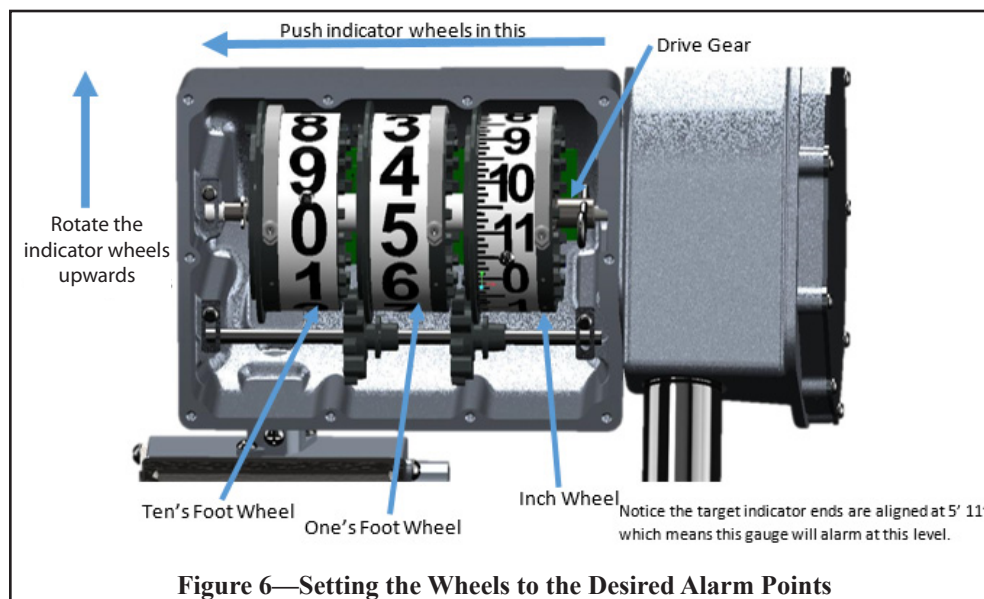
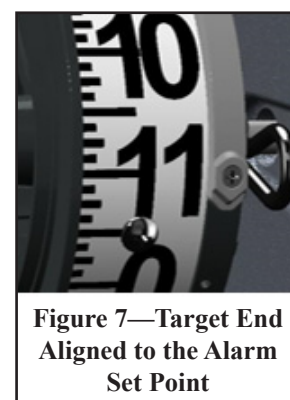

Figure 6—Setting the Wheels to the Desired Alarm Points
Figure 7—Target End Aligned to the Alarm Set Point
5. Push the wheel indicator wheel to the left so that it disengages the drive gear and rotate the wheel upwards until you reach the magnet see Figure 6. Now let the indicator wheel seat back into the drive gear. While holding the indicator wheel, remove the magnet, screw and positioner and set these items aside.
7. Place the magnet positioner onto the indicator wheel with the target end aligned with the desired alarm set point, as shown in Figure 7. While holding the indicator wheel, thread the screw through the target end hole and into the matching hole in the indicator wheel. **DO NOT OVER TIGHTEN**, only snug up the screw.
9. Magnet positioners must be evenly placed on the wheels as in Figure 6 and Figure 7.
10. These steps are repeated for the one's foot wheel and the ten's foot wheel, see Figure 6.